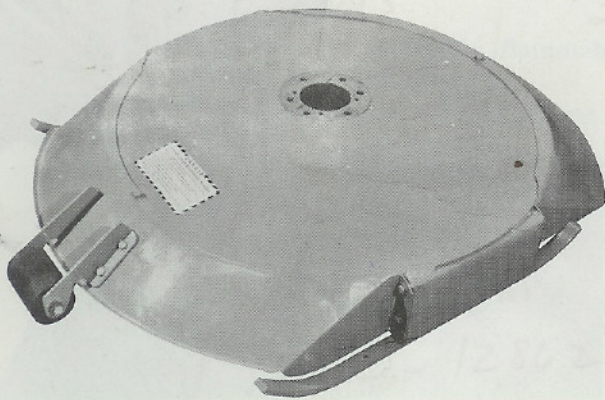

fig. 3
2. Bolt the gauge roller assembly to mower deck with four bolts (item 13) and locknuts (item 15). See fig. 3.